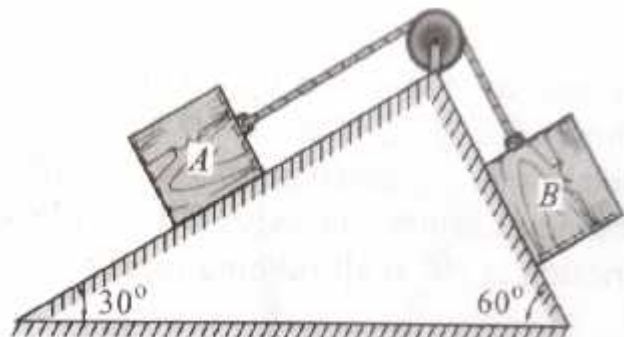

fig:2
2. Two blocks A and B are placed on inclined planes as shown in fig:2. The block A weighs 1000 N, determine the minimum weight of block B for maintaining the equilibrium of the system. Assume that the blocks are connected by the inextensible string passing over a frictionless pulley. Co-efficient of friction between the block A and the plane is 0.25 and assume the same co-efficient of friction between the block B and the plane.